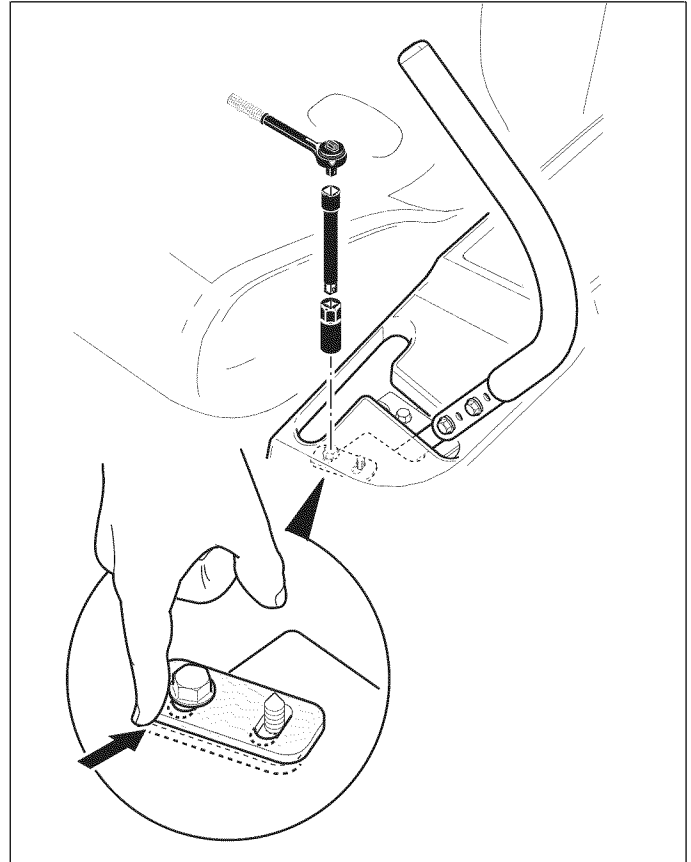

Figure 13. Ground Speed Lever Adjustments
Remove the ground speed lever mounting hardware (Figure 13) and reposition the lever either up or down from its original position. Replace the hardware.
1. Loosen the bolt securing the forward adjust plate (Figure 13).